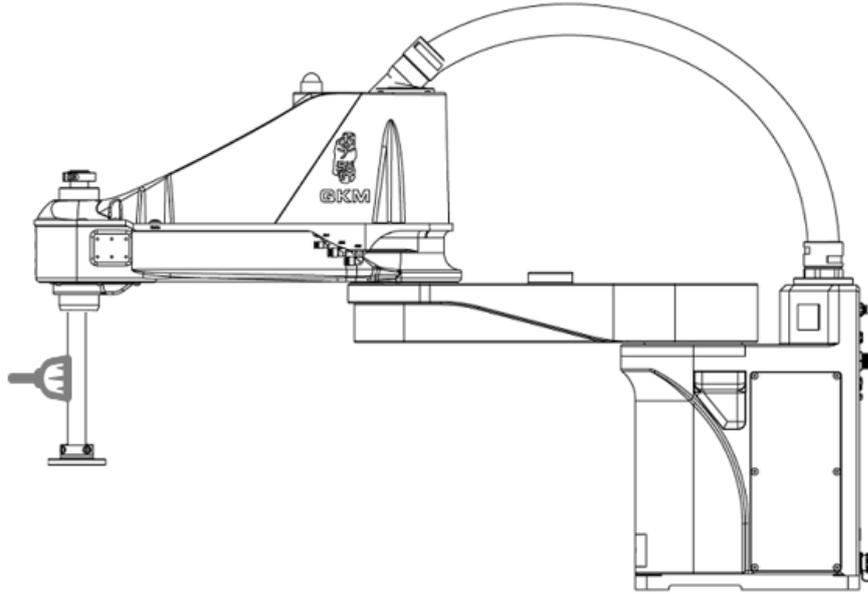

Figure 4-3 Apply lubricating grease
Step 2 Wipe the old grease off the screw shaft with dust-free paper, then apply an appropriate amount of grease on the screw shaft and use the special oil brush to apply it evenly, as shown in Figure 4-3.